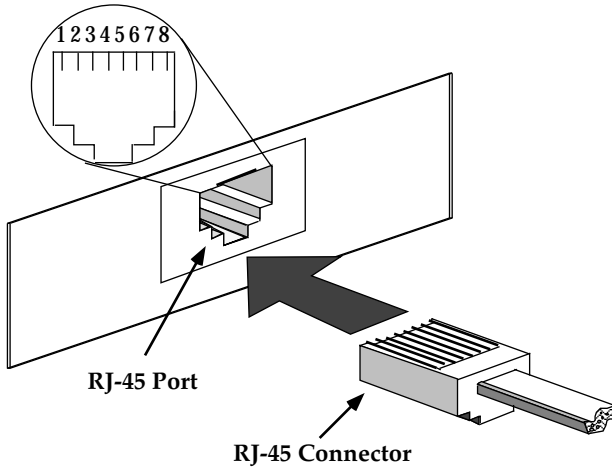

Figure 3-3. RJ-45 Port Connections
To connect the adapter to a Token-Ring lobe link, via the RJ-45 port, connect the UTP lobe link (4, Fig. 3-3) to the adapter by inserting the RJ-45 connector (3) into the RJ-45 port (2) on the adapter.